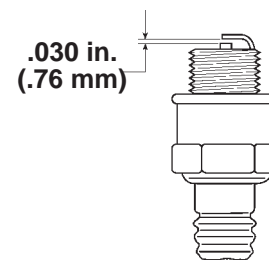

Figure 21
3. Set the gap on the new plug to 0.030" (0.76 mm) (Fig. 21).